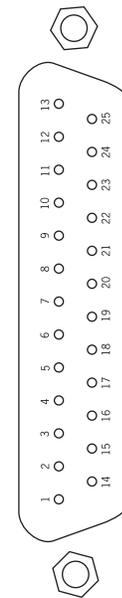

Figure 45. TTL In/Out Connector
This connector provides 8 TTL lines in, 8 TTL lines out and an input control line. Figure 45 illustrates the connector and Table 12 lists the signal/pin assignments.
2. Referring to Figure 45, note that pin 8 = GND and pin 9 = TTL OUT 1.